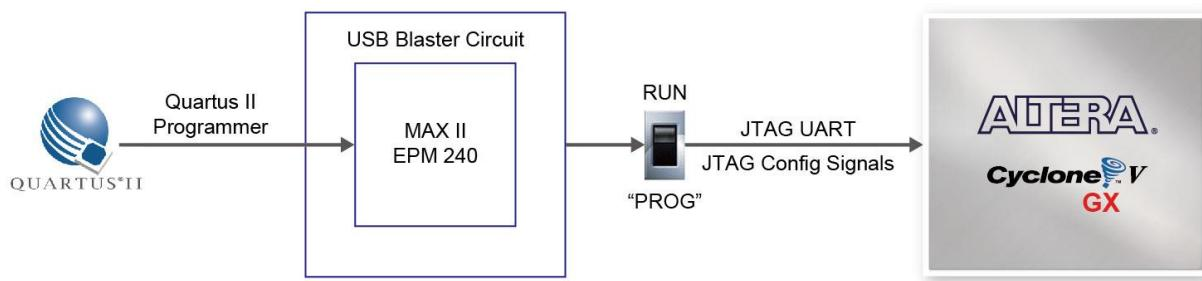

Figure 3-3 The JTAG configuration scheme
**Figure 3-3** illustrates the JTAG configuration setup. To download a configuration bit stream into the Cyclone V GX FPGA, you need to perform the following steps: